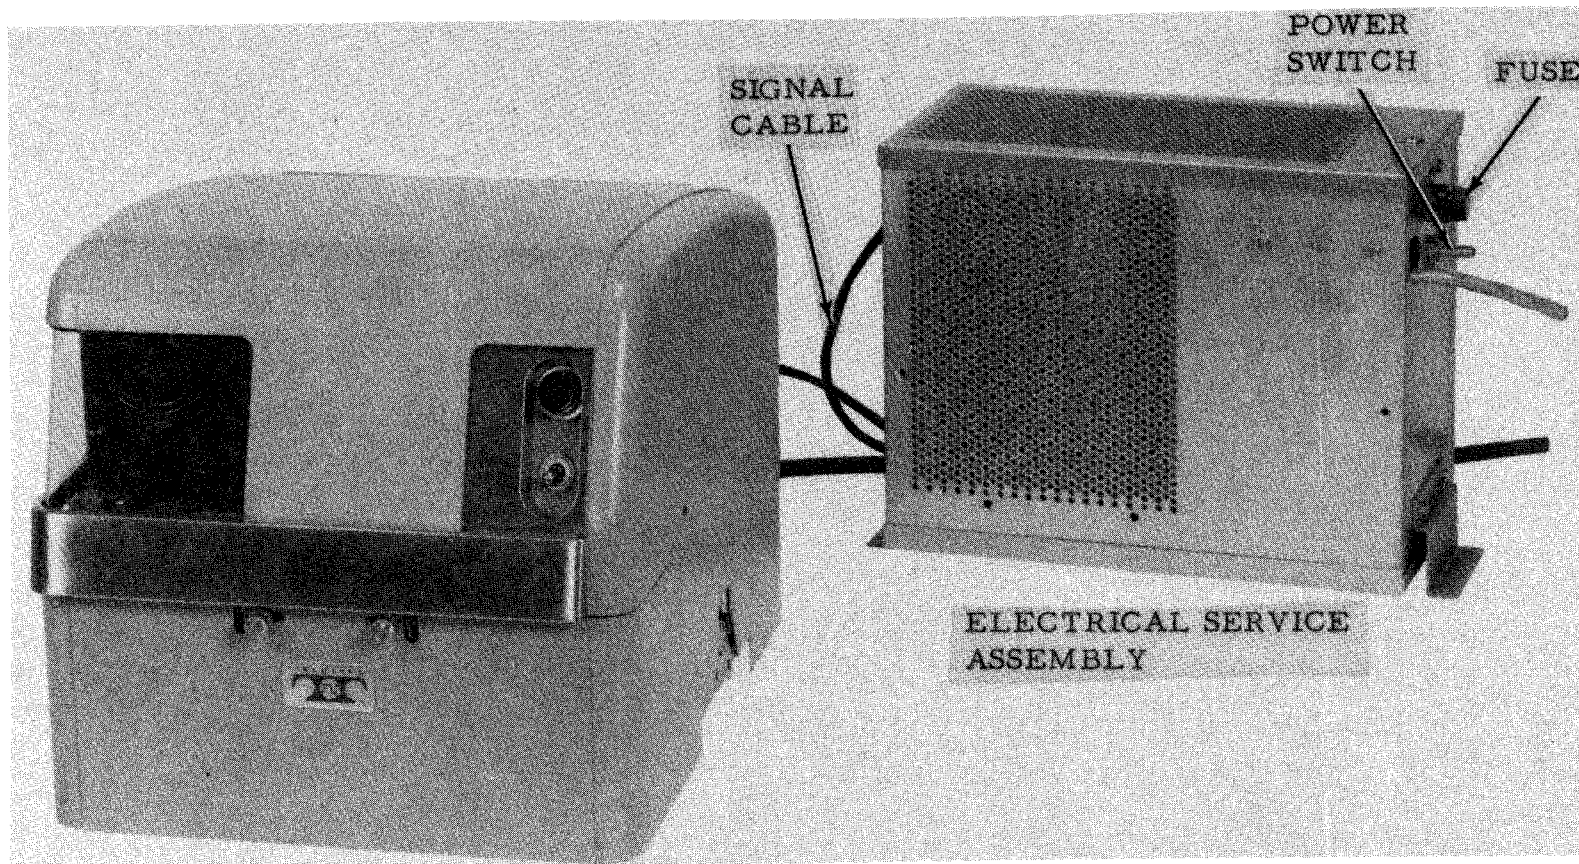

Figure 8-5. Table Model Receive-Only Reperforator (ROTR) Set
- (1) Refer to figure 8-5.
- (2) A table-mounted ESA is used and can be mounted in space available anywhere near the set within the limit of the signal cable. Mounting brackets for the ESA are supplied, however, the customer must supply the hardware to fasten these brackets to a table or wall.
(3) Route the signal line conduit or cable to the ESA container (the side opposite the fuse) and attach by means of a conduit fitting. The container has two 7/8-inch diameter knockouts for 1/2-inch conduit fittings.
(4) Route the power line conduit or cable to the ESA container (the side with the fuse and power switch) and attach by means of a conduit fitting. The container has a 7/8-inch diameter knockout for 1/2-inch conduit fitting. A separate power cable should be brought into the base for the motor.
(5) Route the signal cable from the ESA to the apparatus through the notch in the rear of the cover, through the nylon cable clamp at the rear of the base, and along the left side of the set to the selector magnet assembly connector. Tie the cable to the motor mounting post at the base to keep it clear of the fan.